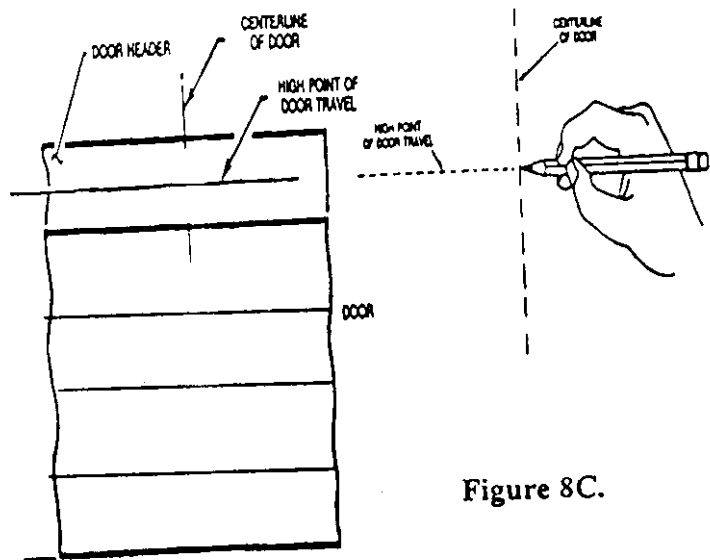

Figure 8C.
Step1. Mounting the Front Bracket (Sectional Doors and One-Piece with Track.) Mark a vertical centerline on the header above the door. By manually raising the door, determine the high point of the door's travel (see figure Figure 8B.) and using a level, transfer this measurement to the header (see figure 8C.). Draw a horizontal line, crossing the previously drawn centerline, at this point. Install the Front Mounting Bracket securely with lag screws as shown on page 9 Figure 9B. If necessary, reinforce the header with steel or wood to ensure a secure mount.